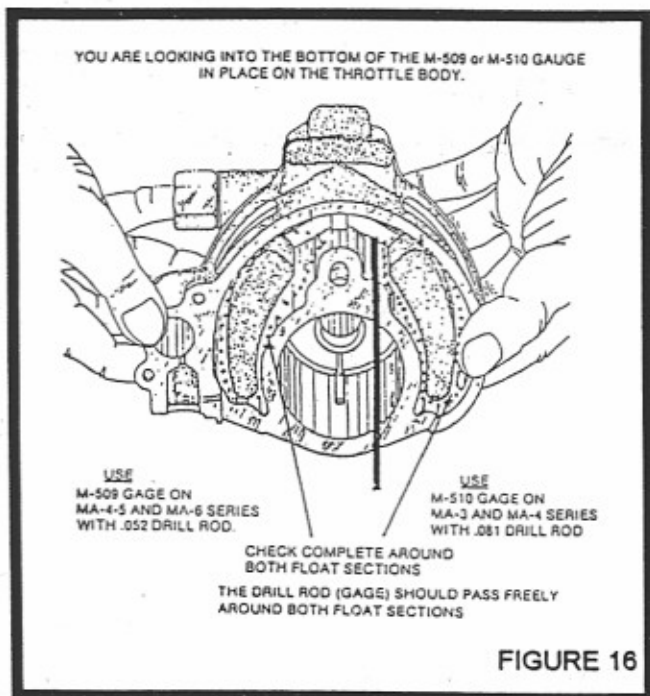

FIGURE 16
- 61) Use tool No. M-510 as a clearance gauge to check float before assembly in accordance with Figure 16. The float may be repositioned laterally by loosening the float bracket screws (63), moving the bracket slightly, and retightening screws. Set throttle body aside in a clean area while completing bowl assembly.